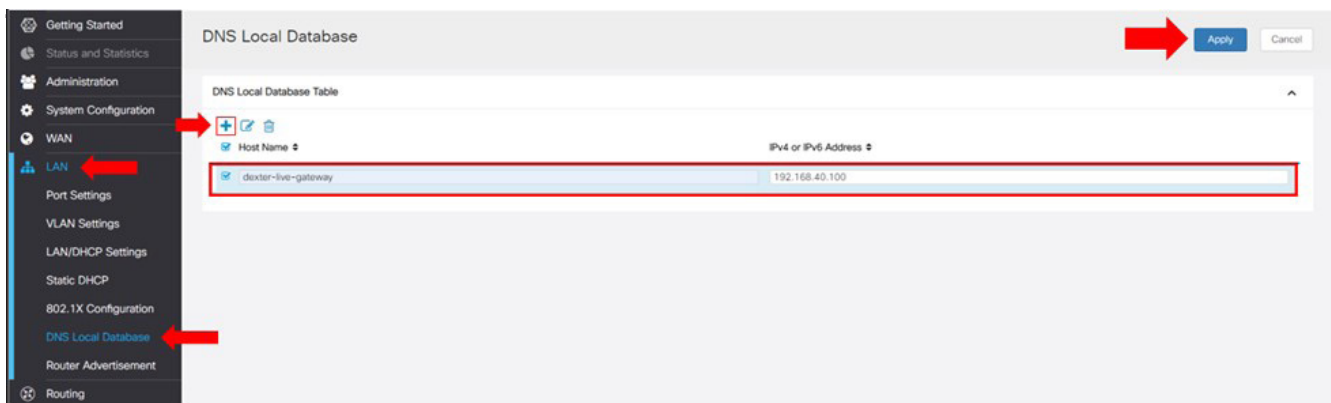

Figure 13
- a. Under the "DNS Local Database Table" text, there should be an "Add" ("+" sign) icon. Select the "Add" icon. (Figure 13).